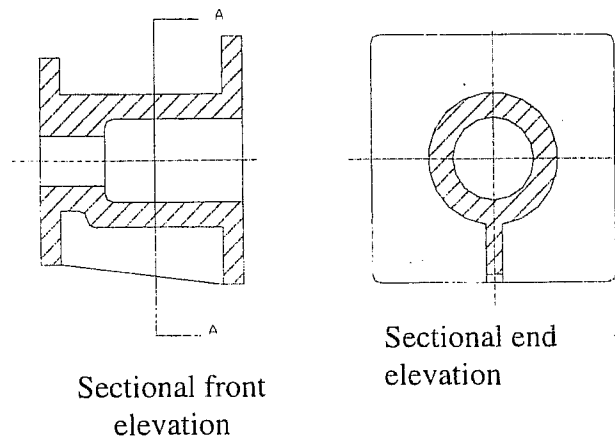

Figure Q9
- (ii) Figure Q9 shows the sectional front elevation and the sectional end elevation of a component to be cast.